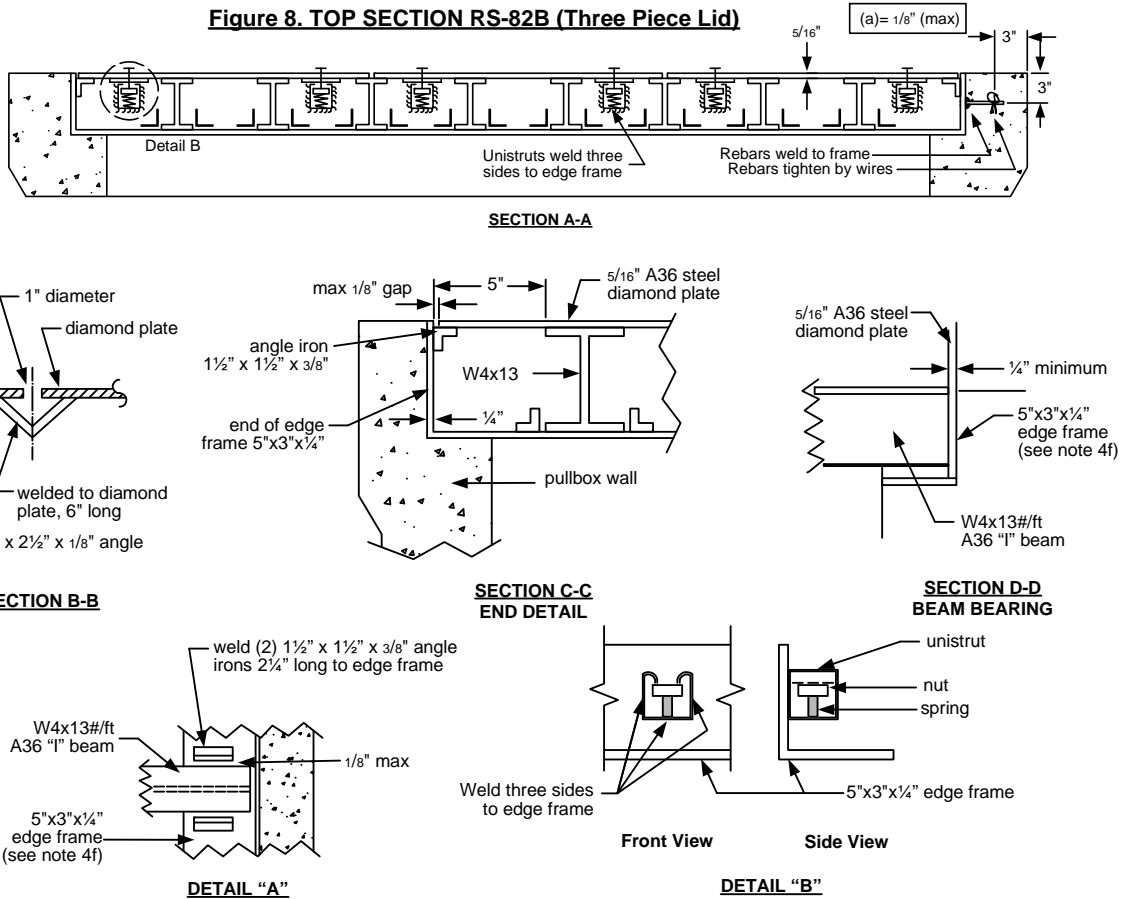

Figure 9.
3. All parts must meet dimensional tolerance requirements in Figure 9. NOTE: The three piece lid is permitted for applications with High Voltage Metering Enclosure (RPM-407) or with the approval of supervisor, T&D Standards.